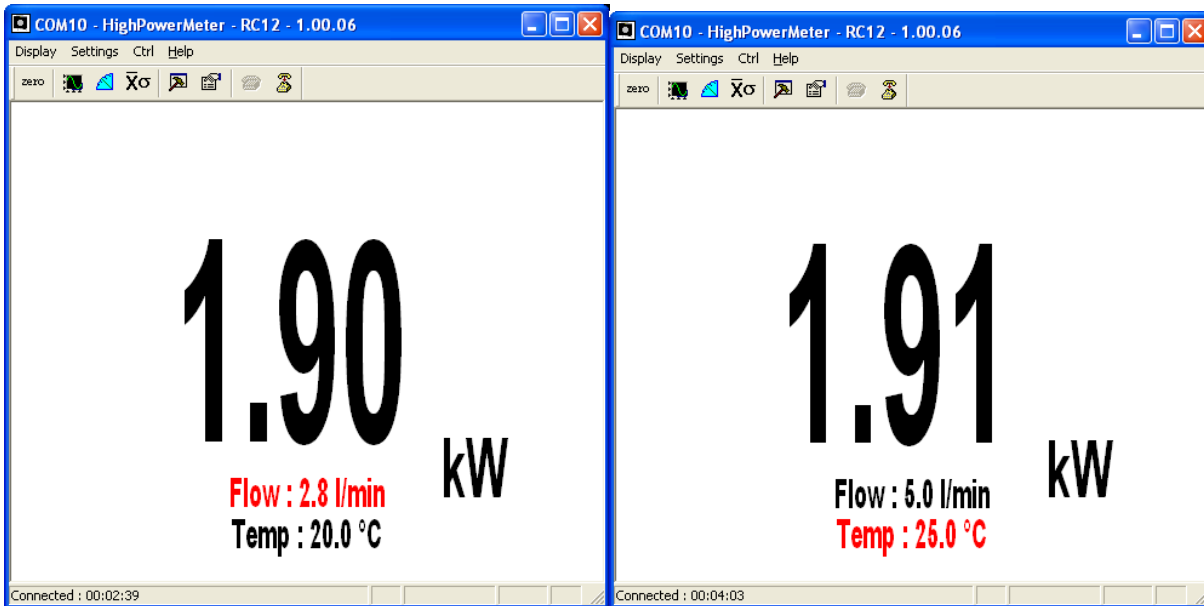

FIG. 2-3 A & B PC-HP INTERFACE WARNINGS
- If the flow rate (FIG 2.3 A) or temperature (FIG 2.3 B) are too high or low the fonts will change to red as a warning that the measurements will be affected.